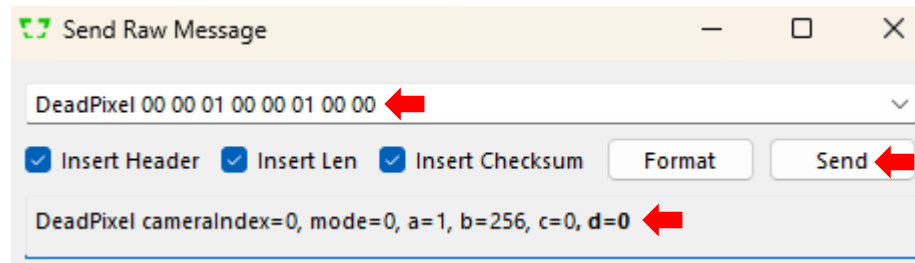

Figure A1: Adding Dead Pixels Using Command and Control
2. Check *Insert Header*, *Insert Len*, and *Insert Checksum* (**Figure A1**).